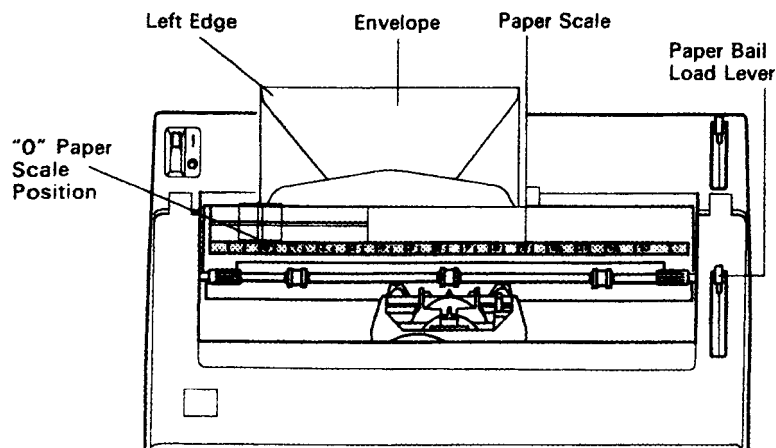

Figure 2-2.
3. Place the left edge of the envelope in the typewriter at the 0 paper scale position. (See Figure 2-2.)
3. Place the left edge of the envelope in the typewriter at the **0** paper scale position. (See Figure 2-2 on page 2-42.)